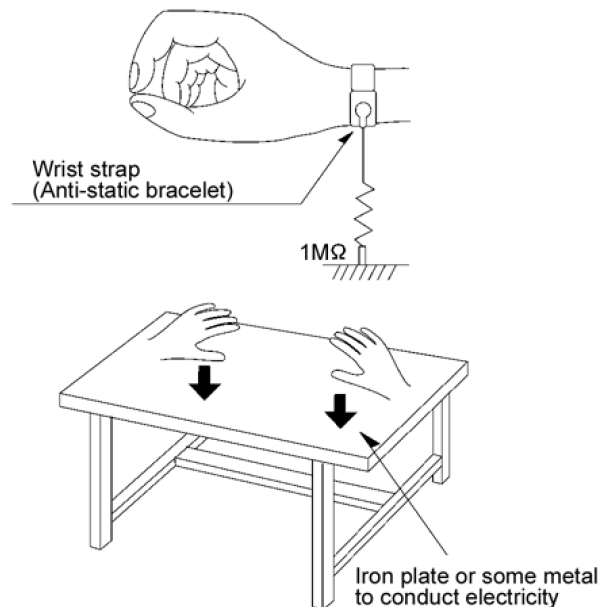

Fig 4.2
1. Human body grounding (Fig 4.2)
2. Work table grounding (Fig 4.2)